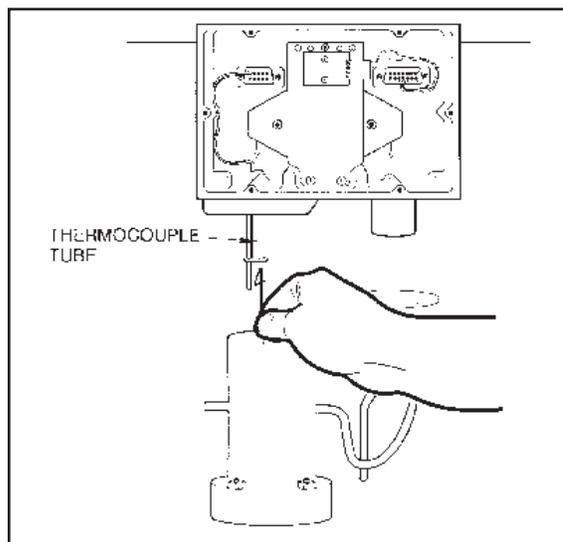

Figure 2.14
5. Carefully insert the bottom of the hang-down wire into the top of the furnace far enough so that you can insert the top of the wire into the thermocouple tube without bending the wire (Figure 2.14).